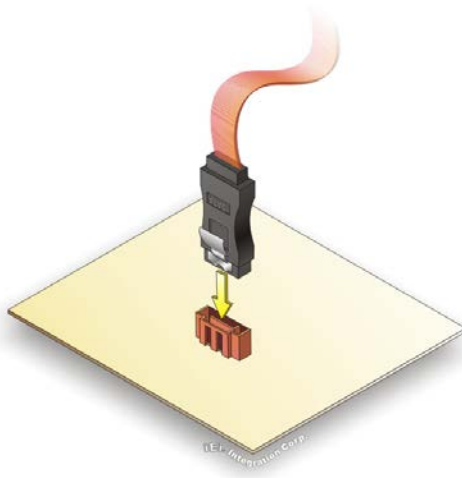

Figure 4-13: SATA Drive Cable Connection
Step 2: Insert the cable connector. Insert the cable connector into the on-board SATA drive connector until it clips into place. See **Figure 4-13**.